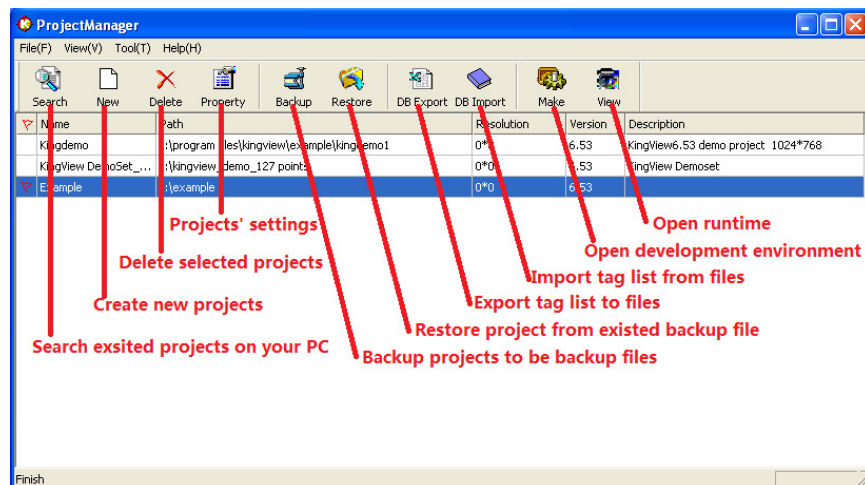
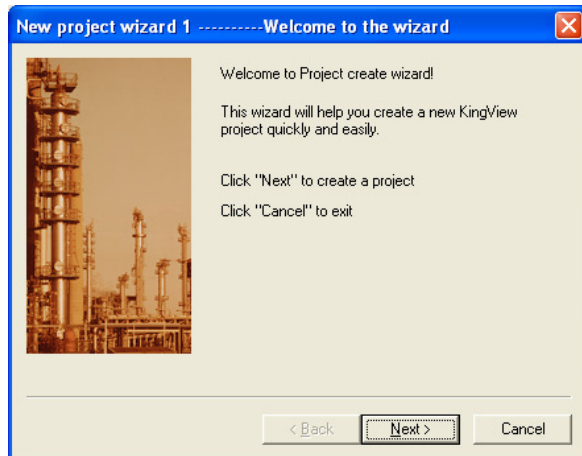
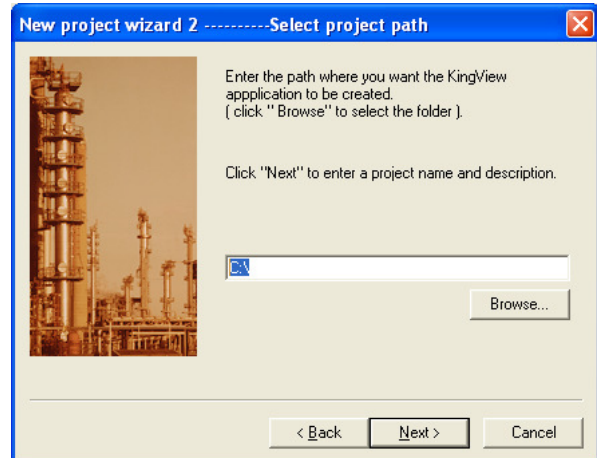
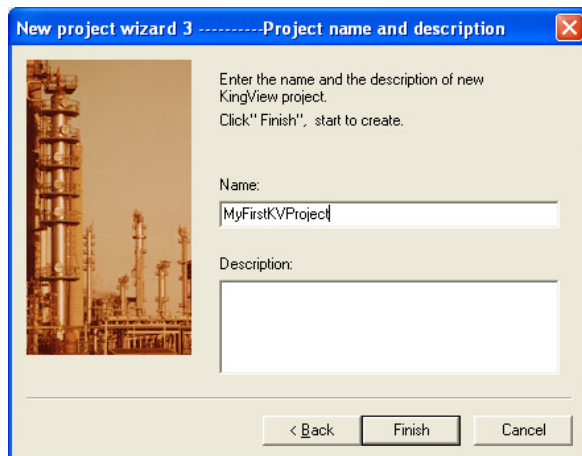

Fig. 3 Start at ProjectManager
Fig. 4 New Project Wizard -1
Fig. 5 New Project Wizard -2
Fig. 6 New Project Wizard -3
**Note:** ProjectManager is used for managing projects. It can search for existing projects on your PC, create, delete and configure projects and other functions as seen in Fig. 3.
2. Create a new project by clicking the “New” button on the tool bar as Fig. 3 shown. And then follow the steps to configure the new project as Fig. 4, Fig. 5 and Fig. 6 shown.